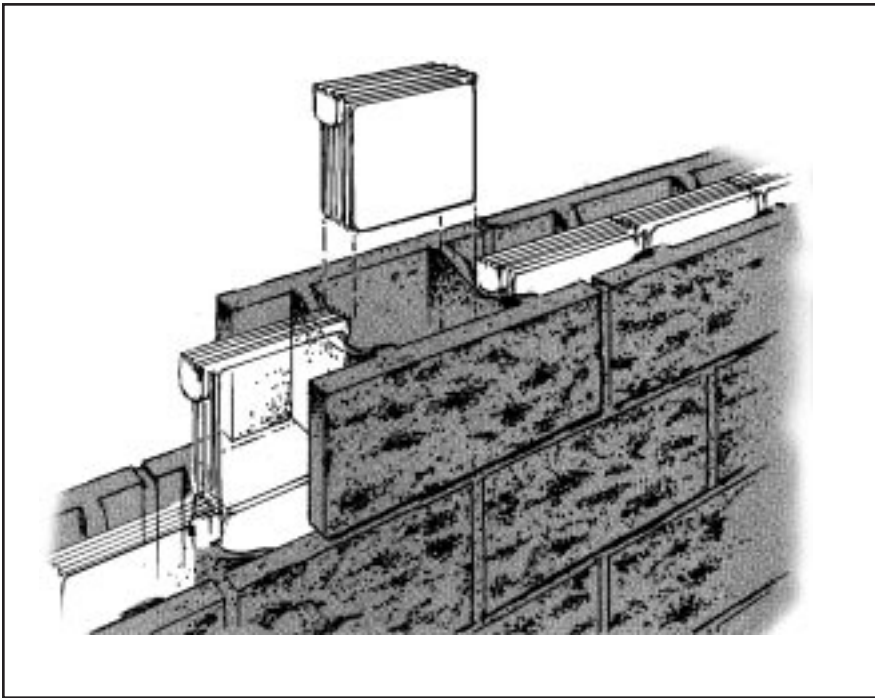

Figure 4
**Integrally insulated blocks** Several brands of integrally insulated block products are available that combine specially designed concrete masonry units with uniquely shaped insulating blocks of rigid polystyrene or other insulation. Be sure that the thermal performance of the integrally insulated block product has a certified evaluation from the National Concrete Masonry Association Concrete Masonry R-value Evaluation Program. The insulation blocks insulate the cores of the blocks, and to varying degrees, depending upon the manufacturer, reduces thermal bridging between the interior and exterior faces of block (see Figure 4).